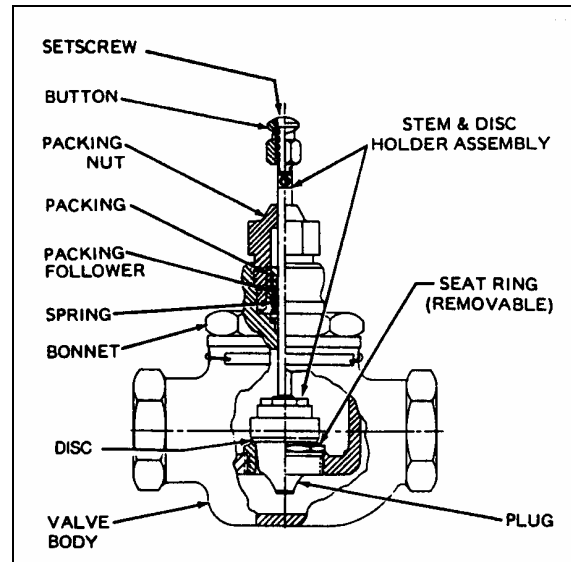

FIGURE 43: VALVE BODY ASSEMBLY
4. Remove stem and plug. Direct acting threaded body valves (Fig. 43). Unscrew the bonnet. Lift out the stem and disc holder assembly and the plug.
5. Disassemble stem and plug. Threaded body valves. Unscrew plug (Fig. 43) from stem to remove disc and spring. The disc may have to be pried from the disc holder with a screwdriver. The valves have a staked stem and disc holder assembly (Fig. 43). The stem and plug cannot be disassembled on some valves with metal-to-metal seats.